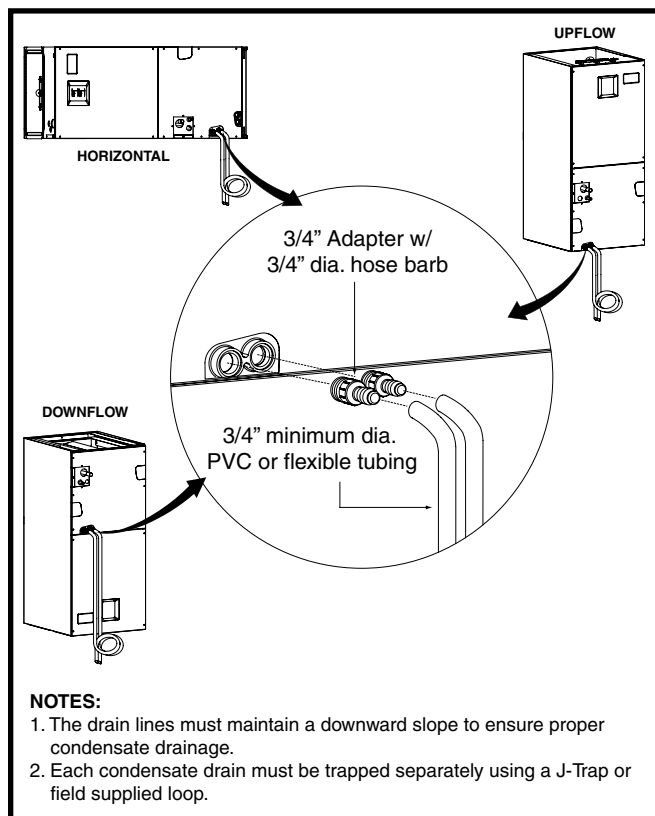

Figure 5. Condensate Drainage Example
- The drain pan that is supplied with this air handler contains a primary and secondary drain fitting. The condensate is drained from the unit through two 3/4" female pipe fittings located on the front side of the unit as shown in Figure 5.